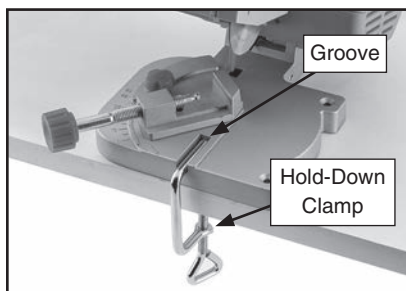

Figure 4. Table clamp holding cut-off saw in place.
2. Place top bar of clamp in groove on top of saw table (see Figure 4).